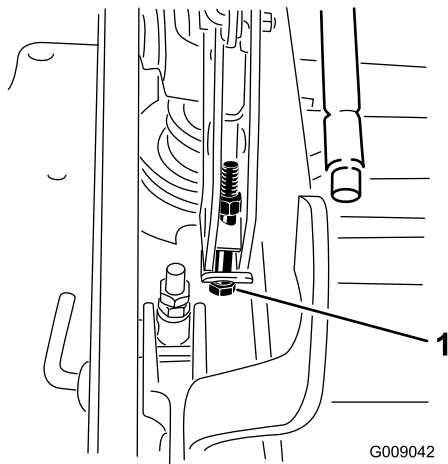

Figure 97
12. If the deck is too low, tighten the single-point-adjustment bolt by rotating it clockwise. If the deck is too high, loosen the single-point-adjustment bolt by rotating it counterclockwise (Figure 97).